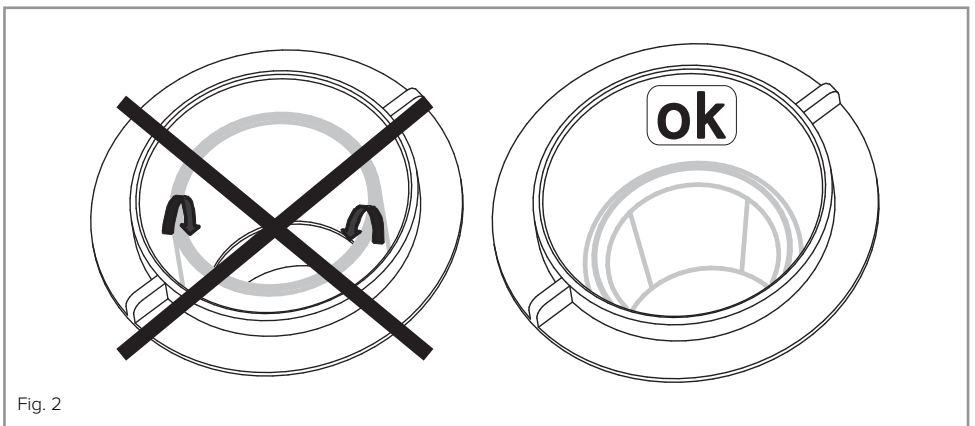

Fig. 2
- Referring to fig. 2 (below), the inner ring of the seal should be pointing downward before the water dispenser is fitted.